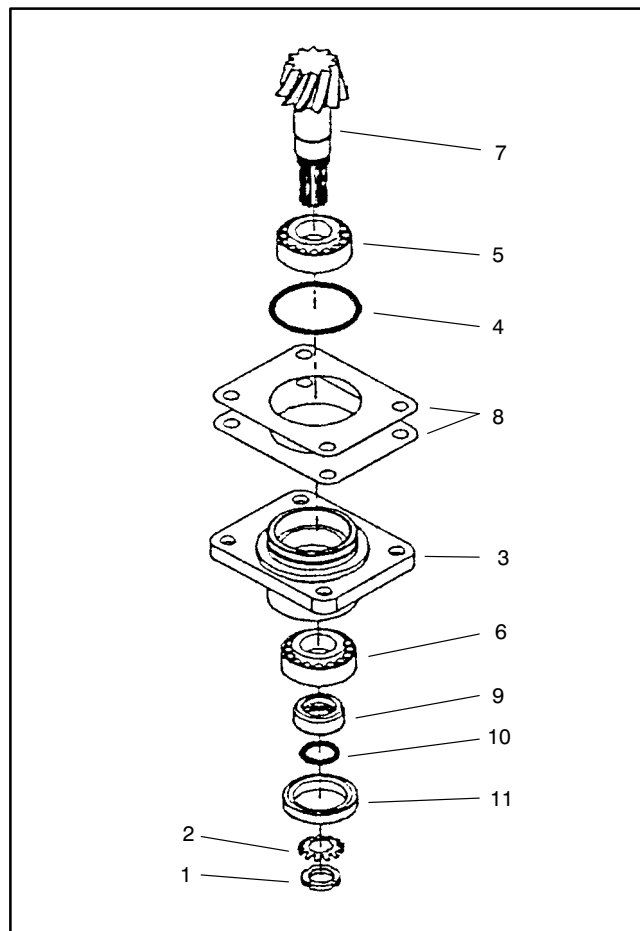

Figure 16
2. Release the stake washer and remove the locknut. Remove and discard the stake washer (Fig. 16).